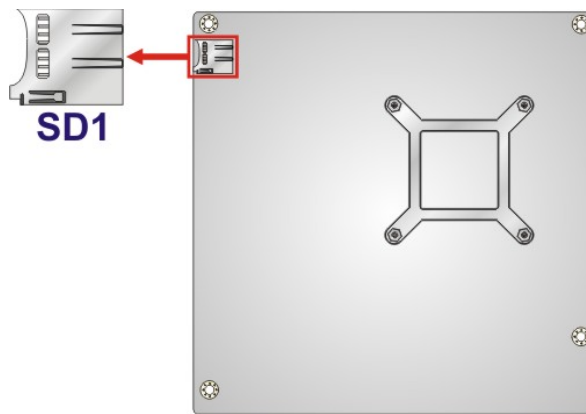

Figure 3-14: microSD Card Slot Location
- CN Location:** See **Figure 3-14**